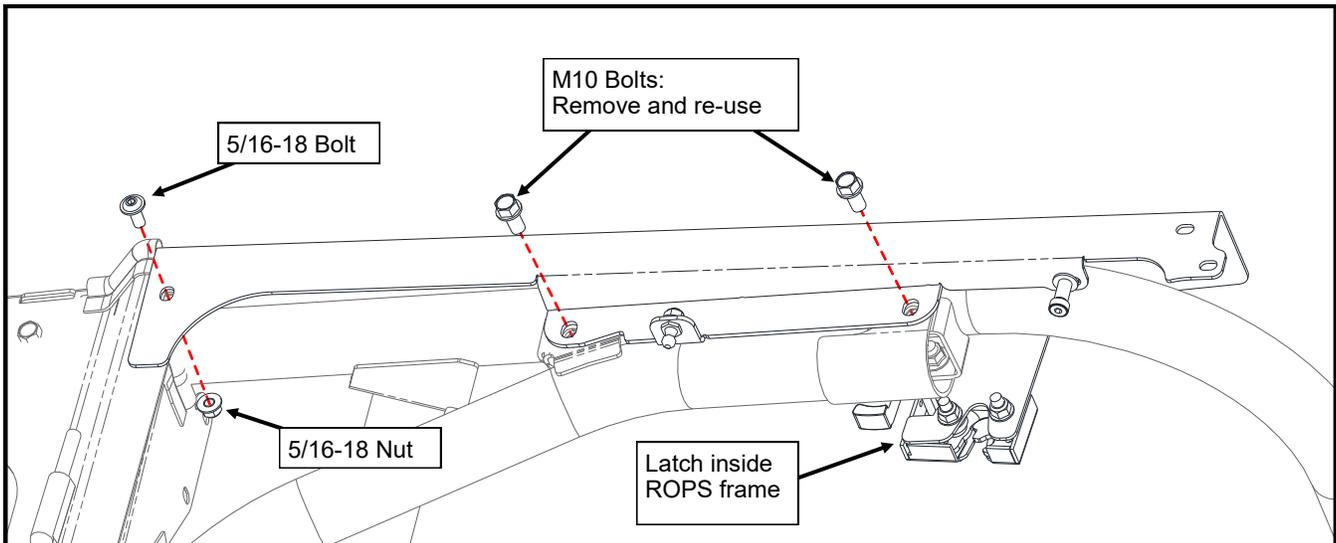

Figure 8.1: Rear Side Headers (Driver's side shown)
- 8.1 For both sides, remove and retain the (2) M10 bolts at the outside, upper rear of the side of the ROPS (see Figure 8.1). Do not remove or loosen the bolts on the inside of the ROPS.
- 8.2 Place the driver's side rear side header over the ROPS and secure it with the removed bolts (see Figure 8.1). Leave the bolts loose. Ensure the latch is on the inside of the frame.